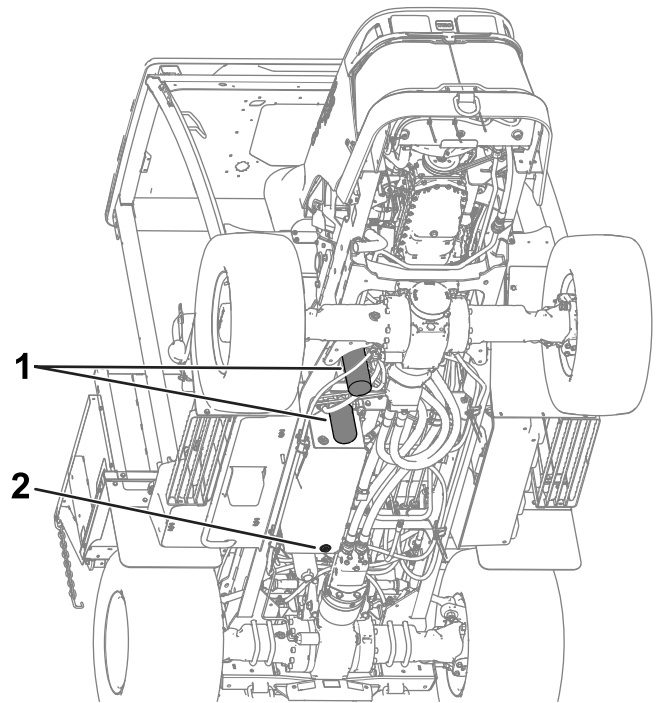

Figure 116
5. Remove the drain plug from the bottom of the tank and let the hydraulic fluid flow into the pan (Figure 116).
8. Place a drain pan under the filter and remove the filter (Figure 116).